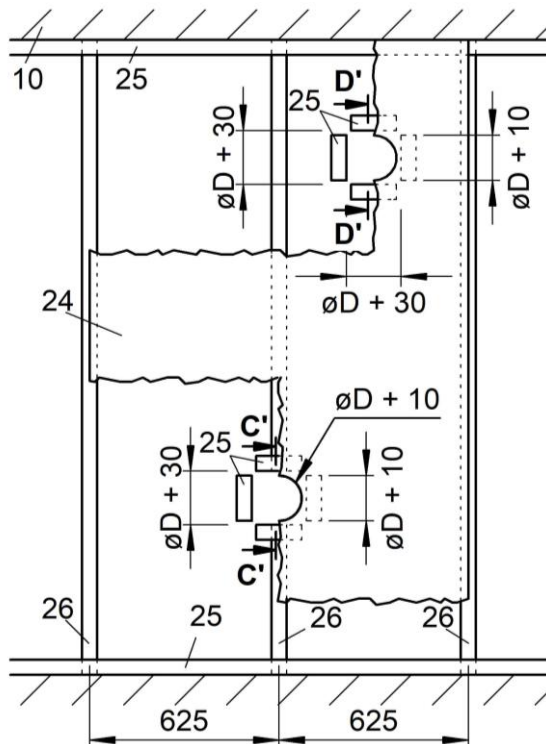
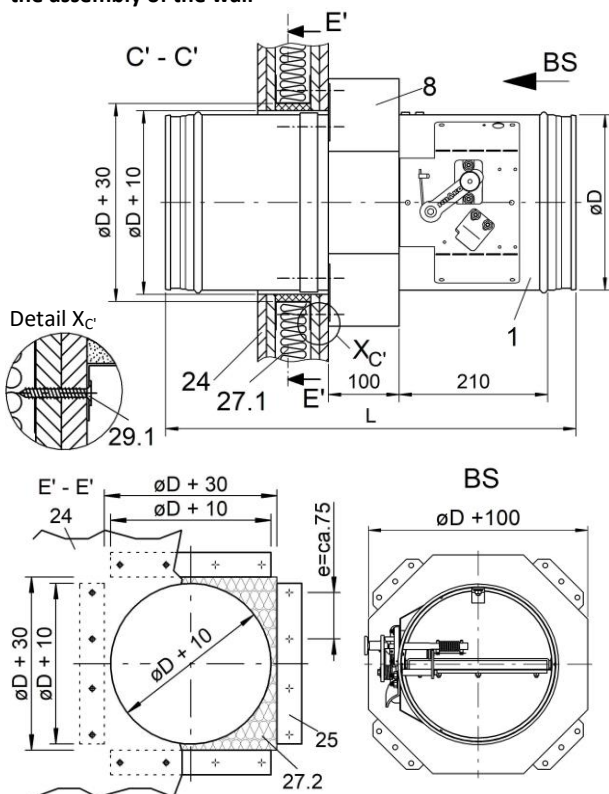

Figure 44: Metal stud frame plus required exchange parts for BSK-RPR with mounting frame AR (dry installation), after the assembly of the wall
Figure 45: Dry installation on lightweight partition wall with mounting frame AR, after the assembly of the wall
- Provide a recess for subsequent dry installation of the BSK-RPR (pos. 1) along with the mounting frame AR (pos. 8) in the wall (diameter: ØD + 10 mm, see Figure 44/44).
- Slide in UW-exchange profiles (pos. 25) and screw them down (drywall screws TN 3.5x35) to the wall panelling.
- The empty spaces/cavities created when inserting the UW-exchange profiles must be filled/stuffed with mineral wool (pos. 27.2) up to the recess, see Figure 45.